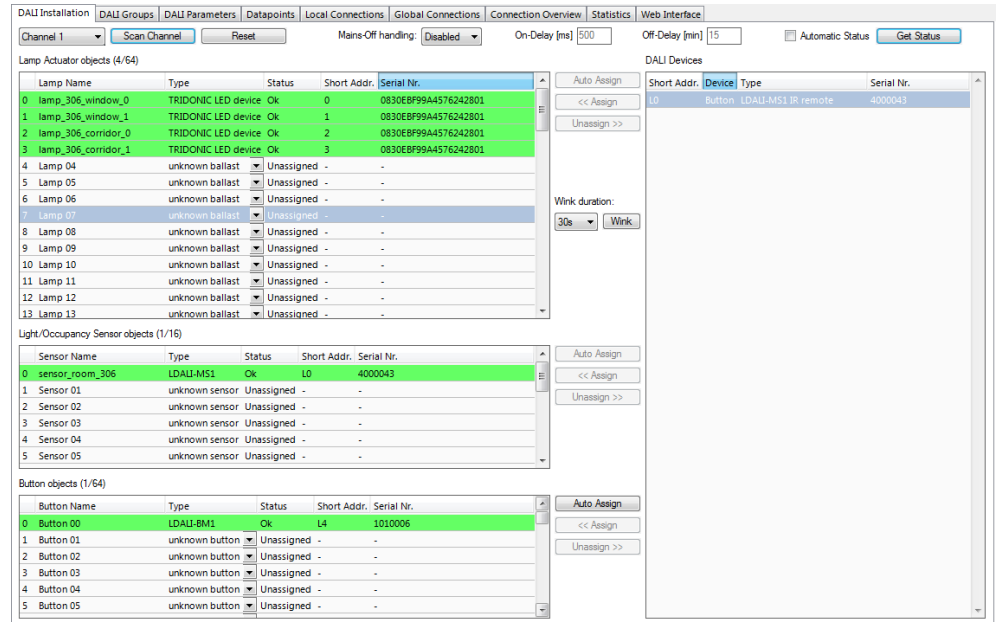

Figure 41: LINX Configurator software, After Configuration Download.
- After the download is complete, go back to the DALI Installation tab and press the **Get Status** button. Now the assigned DALI devices are displayed on a green background (see Figure 41). The green background color indicates that the communication with the device is OK. If there is a communication error, the device will be displayed with a red background color.